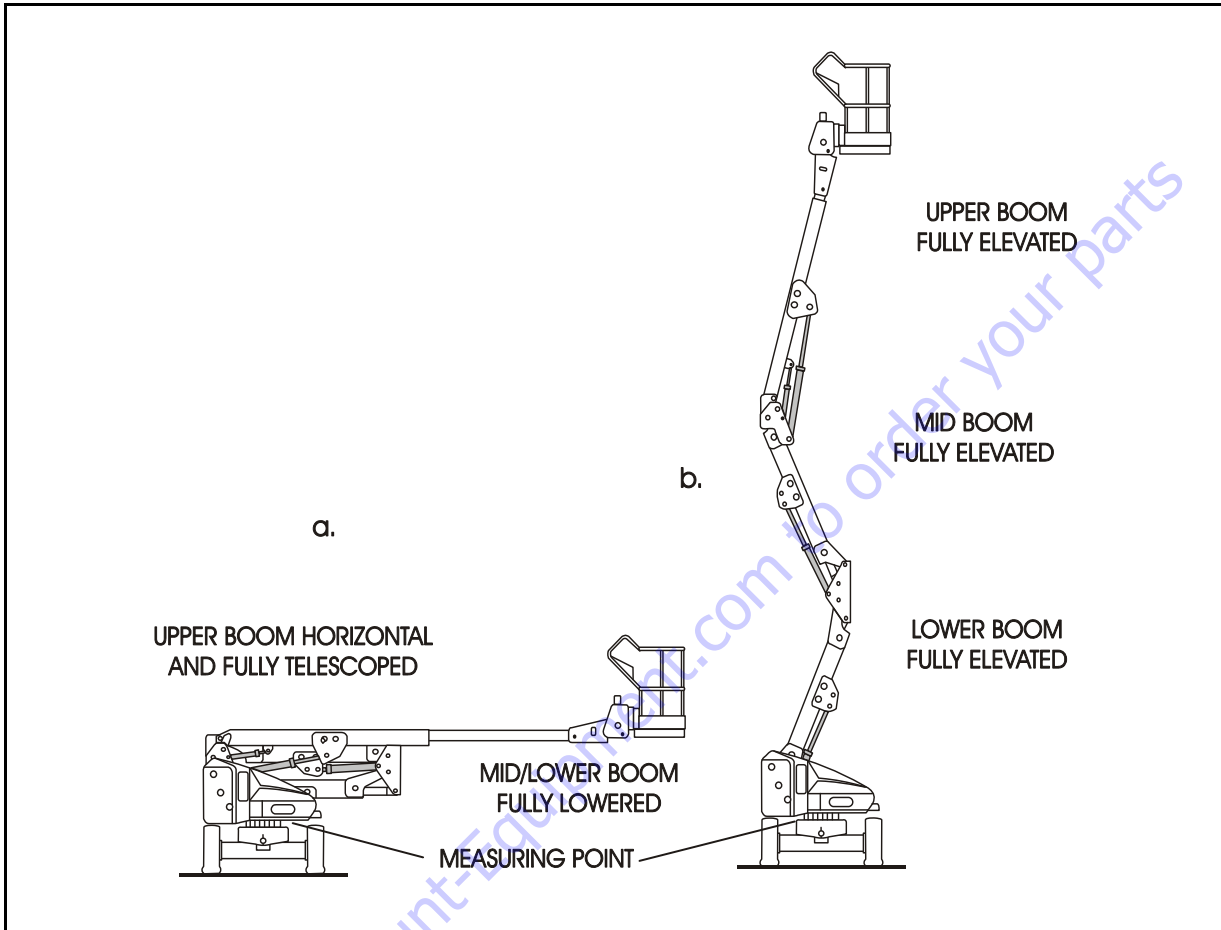
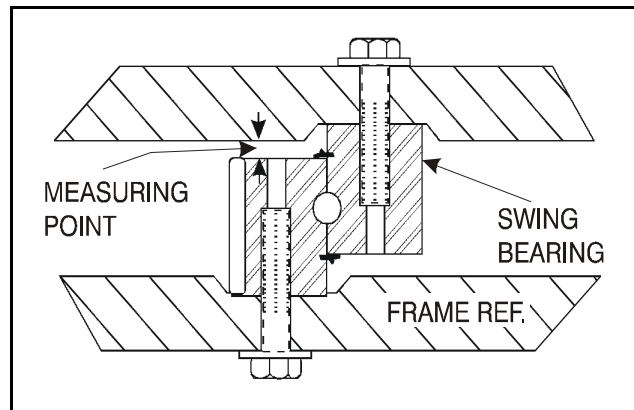

Figure 3-22. Swing Bearing Tolerance Boom Placement
Figure 3-23. Swing Bearing Tolerance Measuring Point
- b. At the positions indicated on Figure 3-22. try and insert the 0.0015" feeler gauge between the bolt head and hardened washer at the arrow indicated position.
extended and Mid/Lower Boom stowed, (See Figure 3-22.), using a magnetic base dial indicator, measure and record the distance between the swing bearing and turntable. (See Figure 3-23.)
2. At the same point, with the boom positioned over the side of the machine, the Upper Boom fully elevated and the Mid/Lower Boom fully elevated, (See Figure 3-22.) using a magnetic base dial indicator, measure and
record the distance between the swing bearing and turntable (See Figure 3-23.).